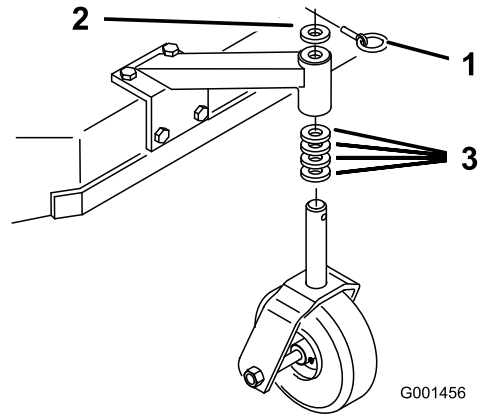

Figure 17
1. Using the Height-of-Cut Chart (page 22), adjust the caster spacers to match with the axle hole selected (Figure 17).
2. Remove the latch pin, slide the caster from the support, and change the spacers (Figure 17).
3. Install the caster in the support and insert the latch pin (Figure 17).